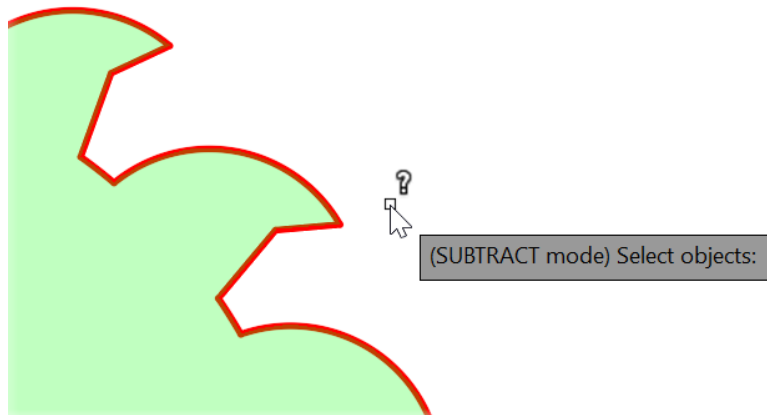

Figure 6.9: (SUBTRACT mode) Select objects, ready to select the circle
8. Right-click again and select **Object**. You will now see the **(SUBTRACT mode) Select objects** prompt, similar to when you added the sawtooth area. This is shown in *Figure 6.9*.